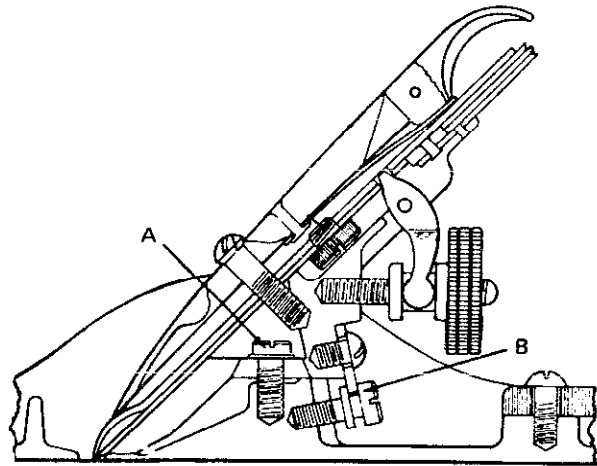

Fig. 8-14 Adjusting frog.
1. Loosen the bed screws (A, figure 8-14), and turn the frog adjusting screw B to the right or left.